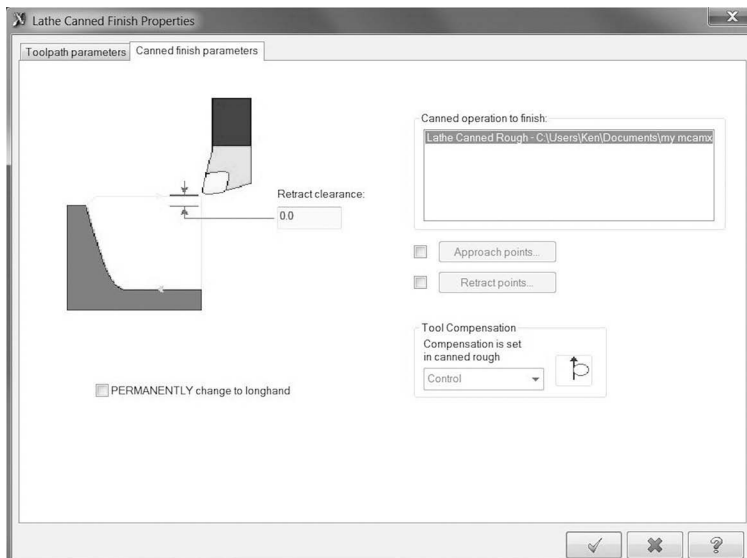

Figure 5-69 Canned Finish Parameters
- In the Canned finish parameters tab, ensure the settings match those in Figure 5-69.